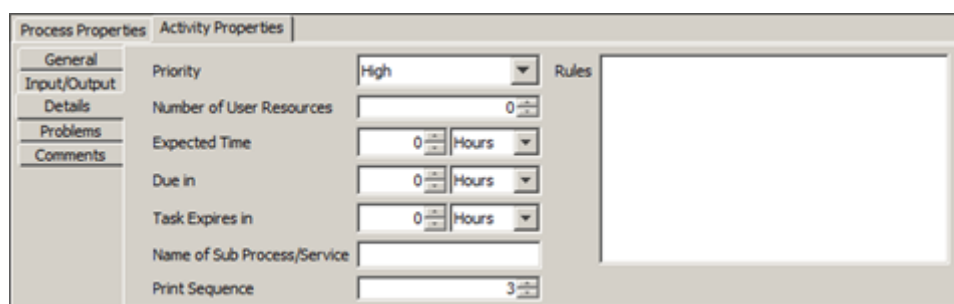

Figure 16: Details Properties
1. Click the **Details** tab to display all detailed properties for the selected element (see Figure 16).